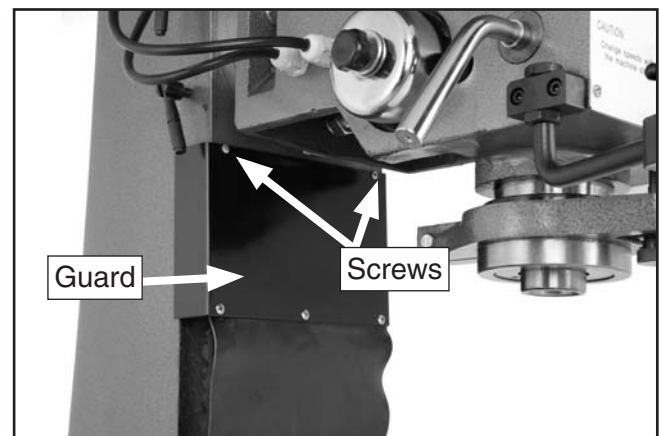

Figure 40. Chip guard.
2. Remove the two Phillips head screws (**Figure 40**), and then remove the guard.